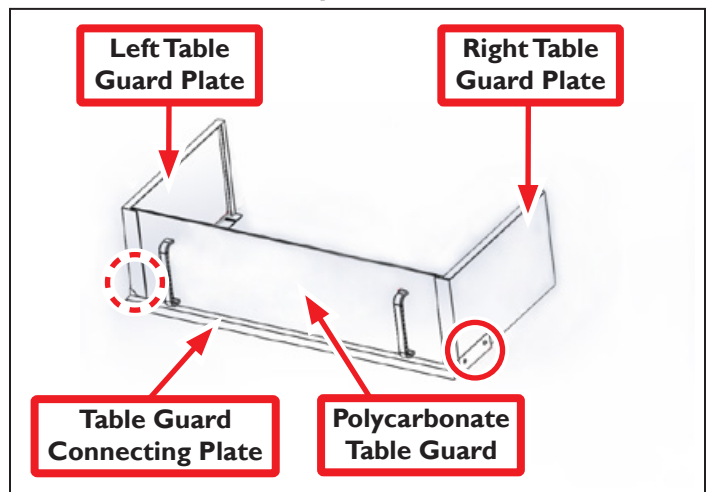

Figure 1
2. Insert Left Table Guard Plate inside Table Guard Connecting Plate and fasten with two M5 x 12 mm Screws and two M5 nuts; repeat for Right Table Guard Plate (see **Figure 1**).
3. Using four M4 x 12 mm Screws, attach two Handles to front of Polycarbonate Table Guard. Handles should face operator (see **Figure 1**).
4. Slide Polycarbonate Table Guard into slots on guard plates (see **Figure 1**).